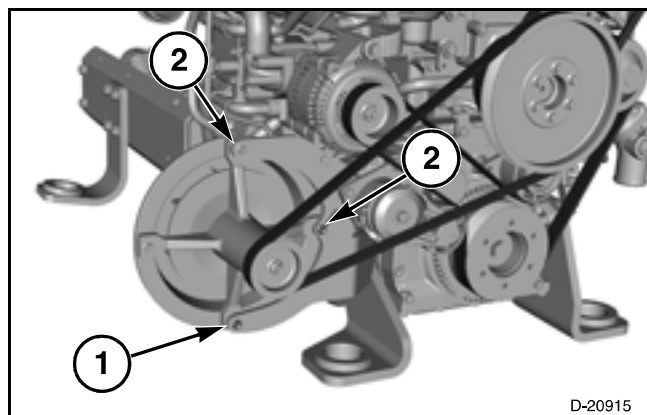

FIG. 27
FIG. 27: Rotate the bottom of the aspirator pump away from the engine and install the lower mounting bolt (1). Tighten the top and right-hand mounting bolts (2).